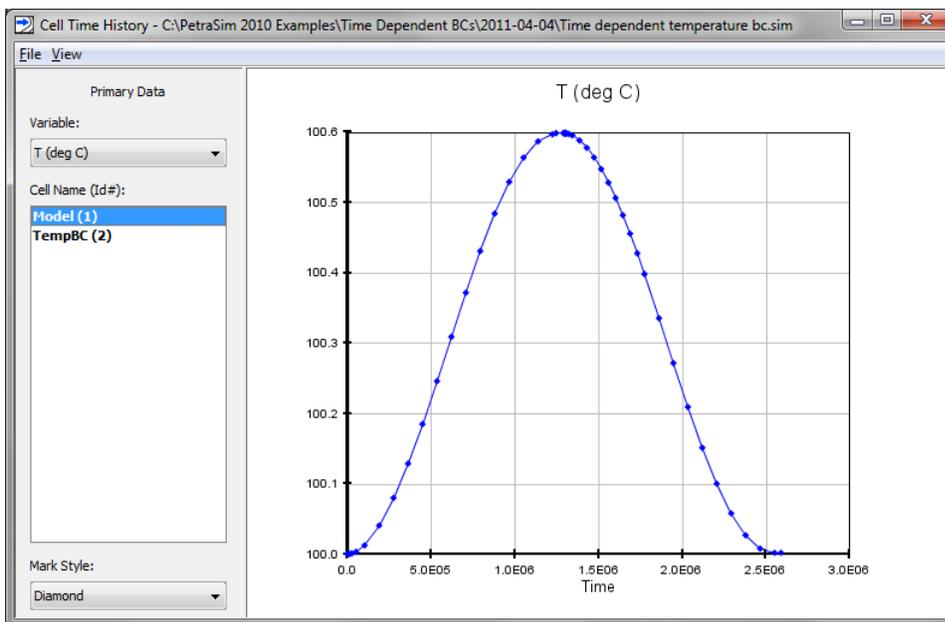

Figure 4: Time history response of model cell
- In the **Cell Name** list, click **Cell 1** (the large cell) to view the time history of the temperature in the model cell. This response shows a temperature change from 100 °C to a maximum of 100.5983 °C, Figure 4. A hand calculation gives an analytic value of 100.597 °C.